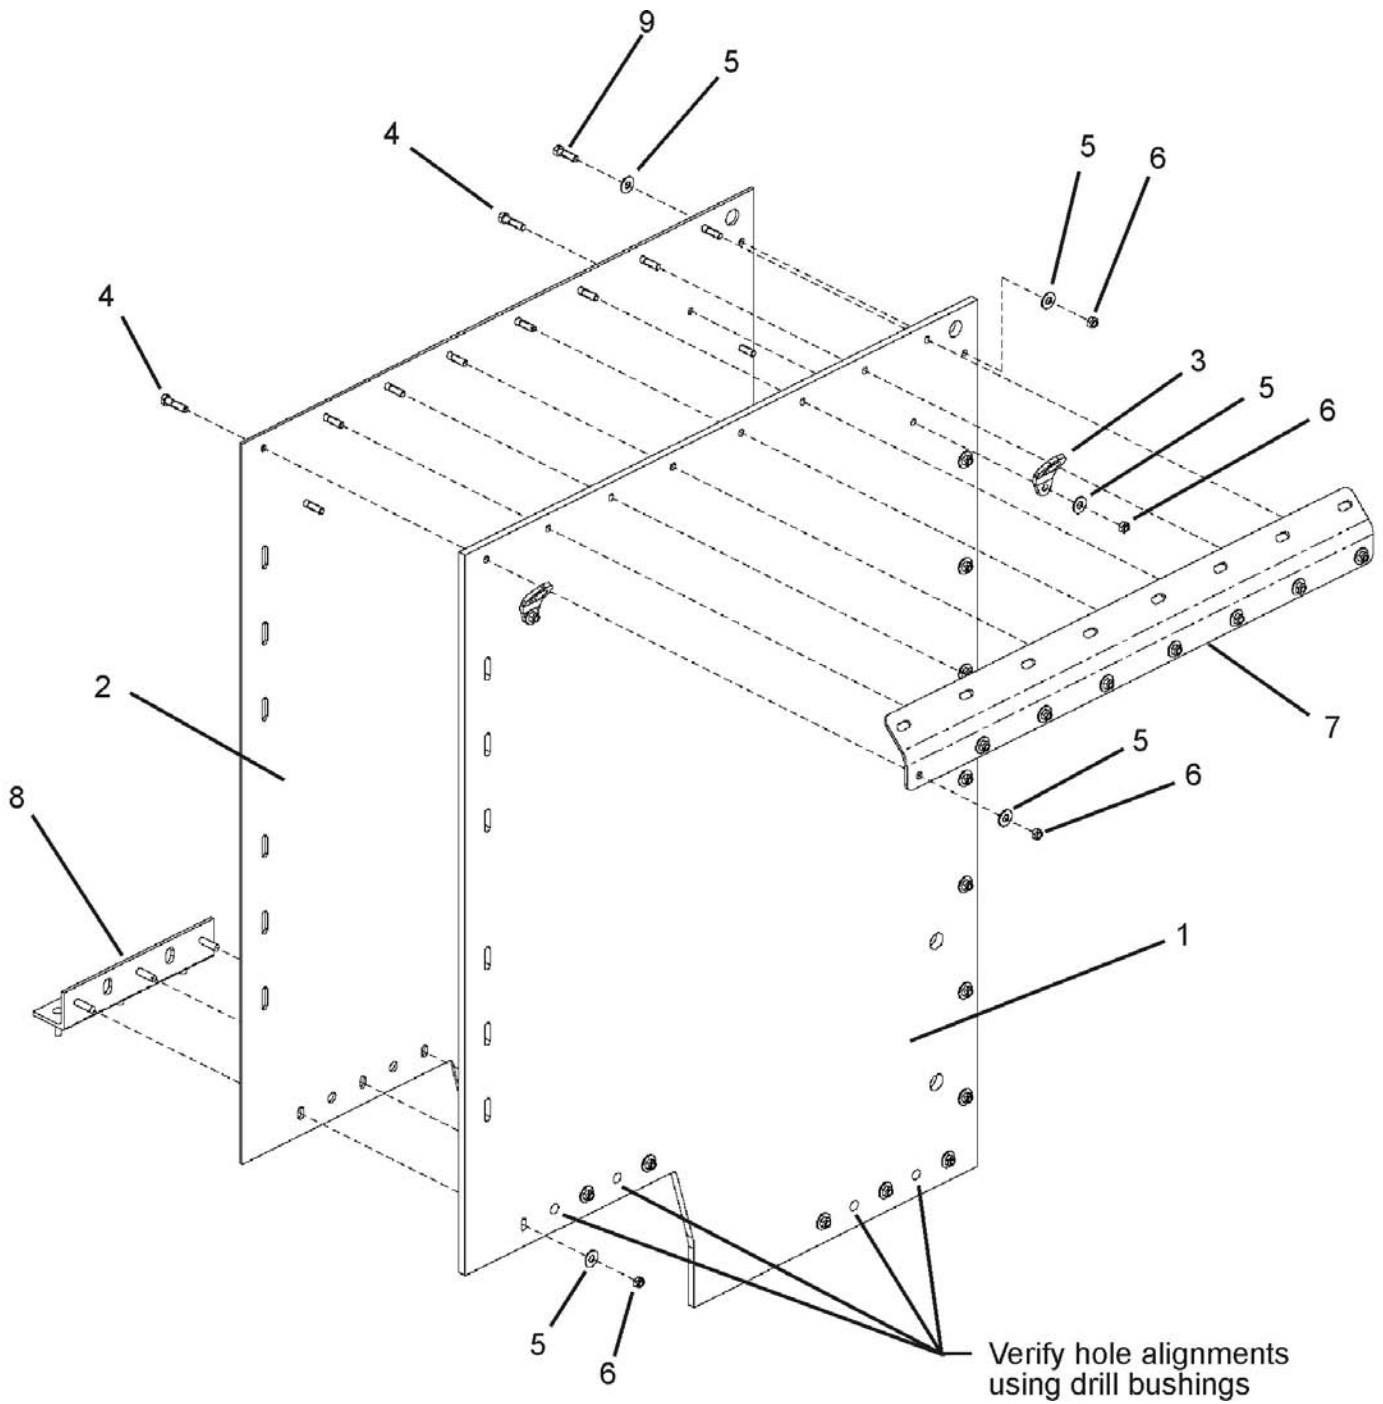

Figure 3-23. Right Aft Side Panels Pre-Assembly.
2. Pre-assemble right aft side panels as follows (see Figure 3-23):
- a. Align right aft side panel (1) with right aft side panel (2) and install two lift brackets (3) and secure each with one bolt (4), flat washer (5), and locknut (6). Verify hole-alignments using drill bushings as gauge. Torque bolts to 35 lb-ft.
- b. Install roof-side armor panel (7) onto right aft side panel assembly and secure it with eight bolts (4), flat washers (5), and locknuts (6). Torque bolts to 35 lb-ft.
- c. Install two 90-degree joiner brackets (8) onto left aft side panel assembly and secure each with three flat washers (5) and locknuts (6). Do not tighten locknuts at this time.
- d. Install eight bolts (9), sixteen flat washers (5), and eight locknuts (6) into left aft side panel assembly. Torque bolts to 35 lb-ft.